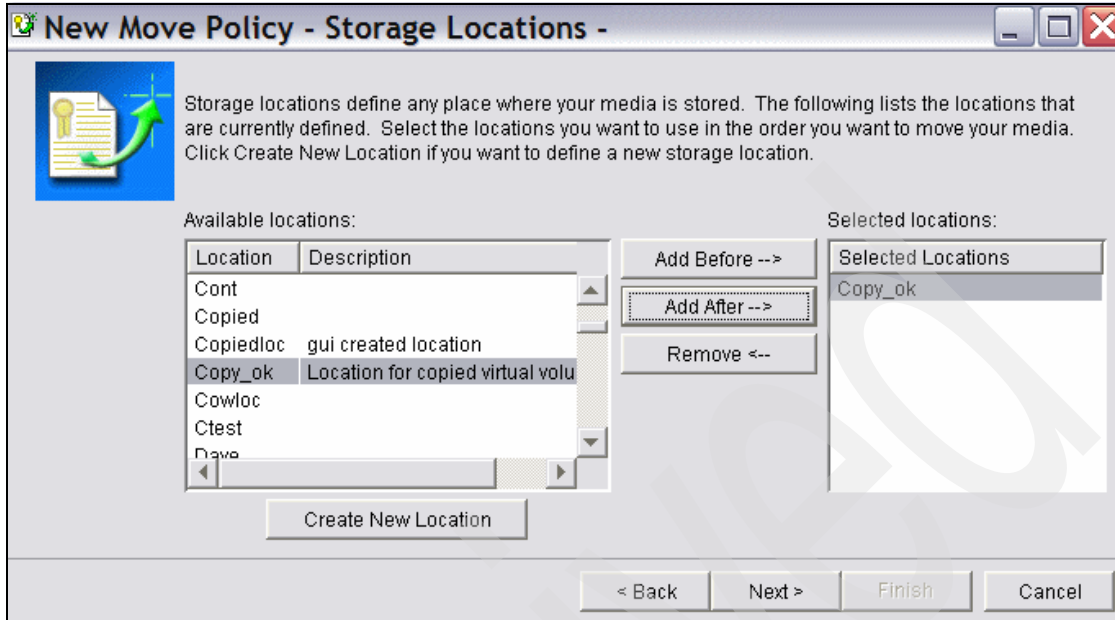

Figure 5-46 BRMS virtual move policy, location order defined
4. Since there is only one step in the move policy in this scenario, there is no need for any other action. Click **Next** in the window, as shown in Figure 5-46 on page 234.